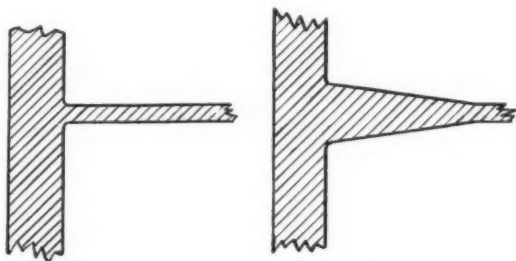

Fig. 6—Undesirable (left) and desirable (right) junction of light and heavy sections
**Joining Sections.** Where the design is such that light and heavy sections join, a gradual increase is desirable in the thickness of the thinner section toward the point of junction, Fig. 6.
The conventional horizontal mounting available in all types and sizes of motors is shown in Figs. 6, 7 and 8. It is the mounting most widely employed. For belt drives, sliding bases permit belt adjustment, this being accomplished by the use of separate subbases in the larger motors and by means of slotted motor bases in the fractional horsepower units. For direct connection, usually through a flexible coupling, the motor is bolted to a fixed base as no adjustment of the position of the motor is required.
Whenever its use is practicable, the standard horizontal motor mounting of the type shown in Fig. 6 is recommended in preference to any of the other types described in the following as this type is lowest in cost and is carried in stock in all standard ratings.